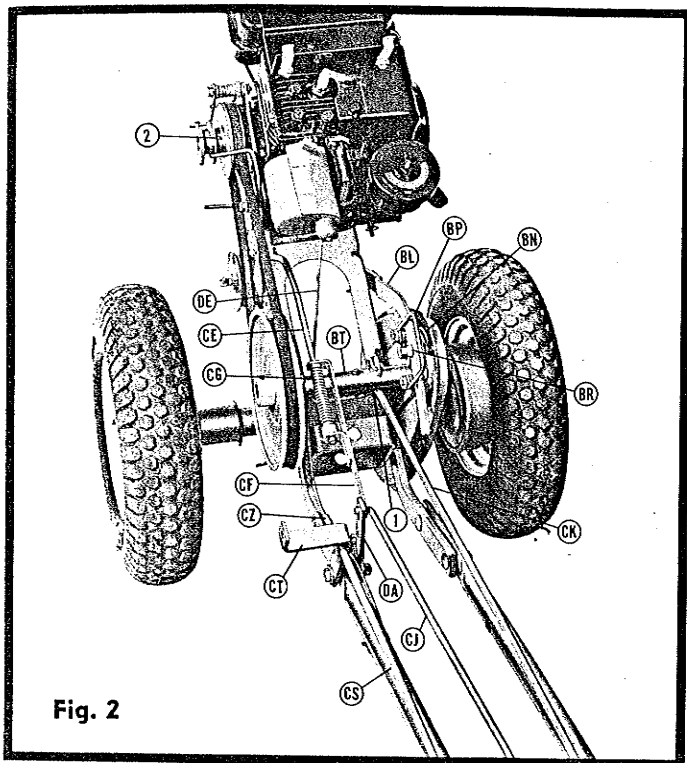

Fig. 2
1. Before bolting handles to the frame, insert the throttle cable (DE) through the cable housing clamp (CZ) as shown.
4. Attach upper idler rod (CS) to lower clutch lever (CT) and to left hand lever (CR).
5. Attach upper clutch rod (CJ) to rod guide assembly (CF), pivot lever (DA), and right hand lever (CP).
6. Attach lower clutch rod (CE) to idler lever extension as shown.
7. Attach throttle control (DG) to the left handle with the cable strung under the handle.
8. Clamp the cable to the handle with three clamps (DD). NOTE: Screws and clamps for cable and throttle control are packed in a mailing bag tied to the cable.
9. For attaching reverse rod, please refer to Fig. 2. Attach reverse rod (CK) to bearing housing (BT) at lower hole indicated by (1).
1. The Model A tractor has two forward speeds. Pulley positions for these speeds are illustrated in Figs. 2 and 3. Fig. 2 illustrates the High Speed, recommended for all attachments except the tiller. Notice in Fig. 2 that the lock pin (BR) is located in the front hole in the lock bar (BL).